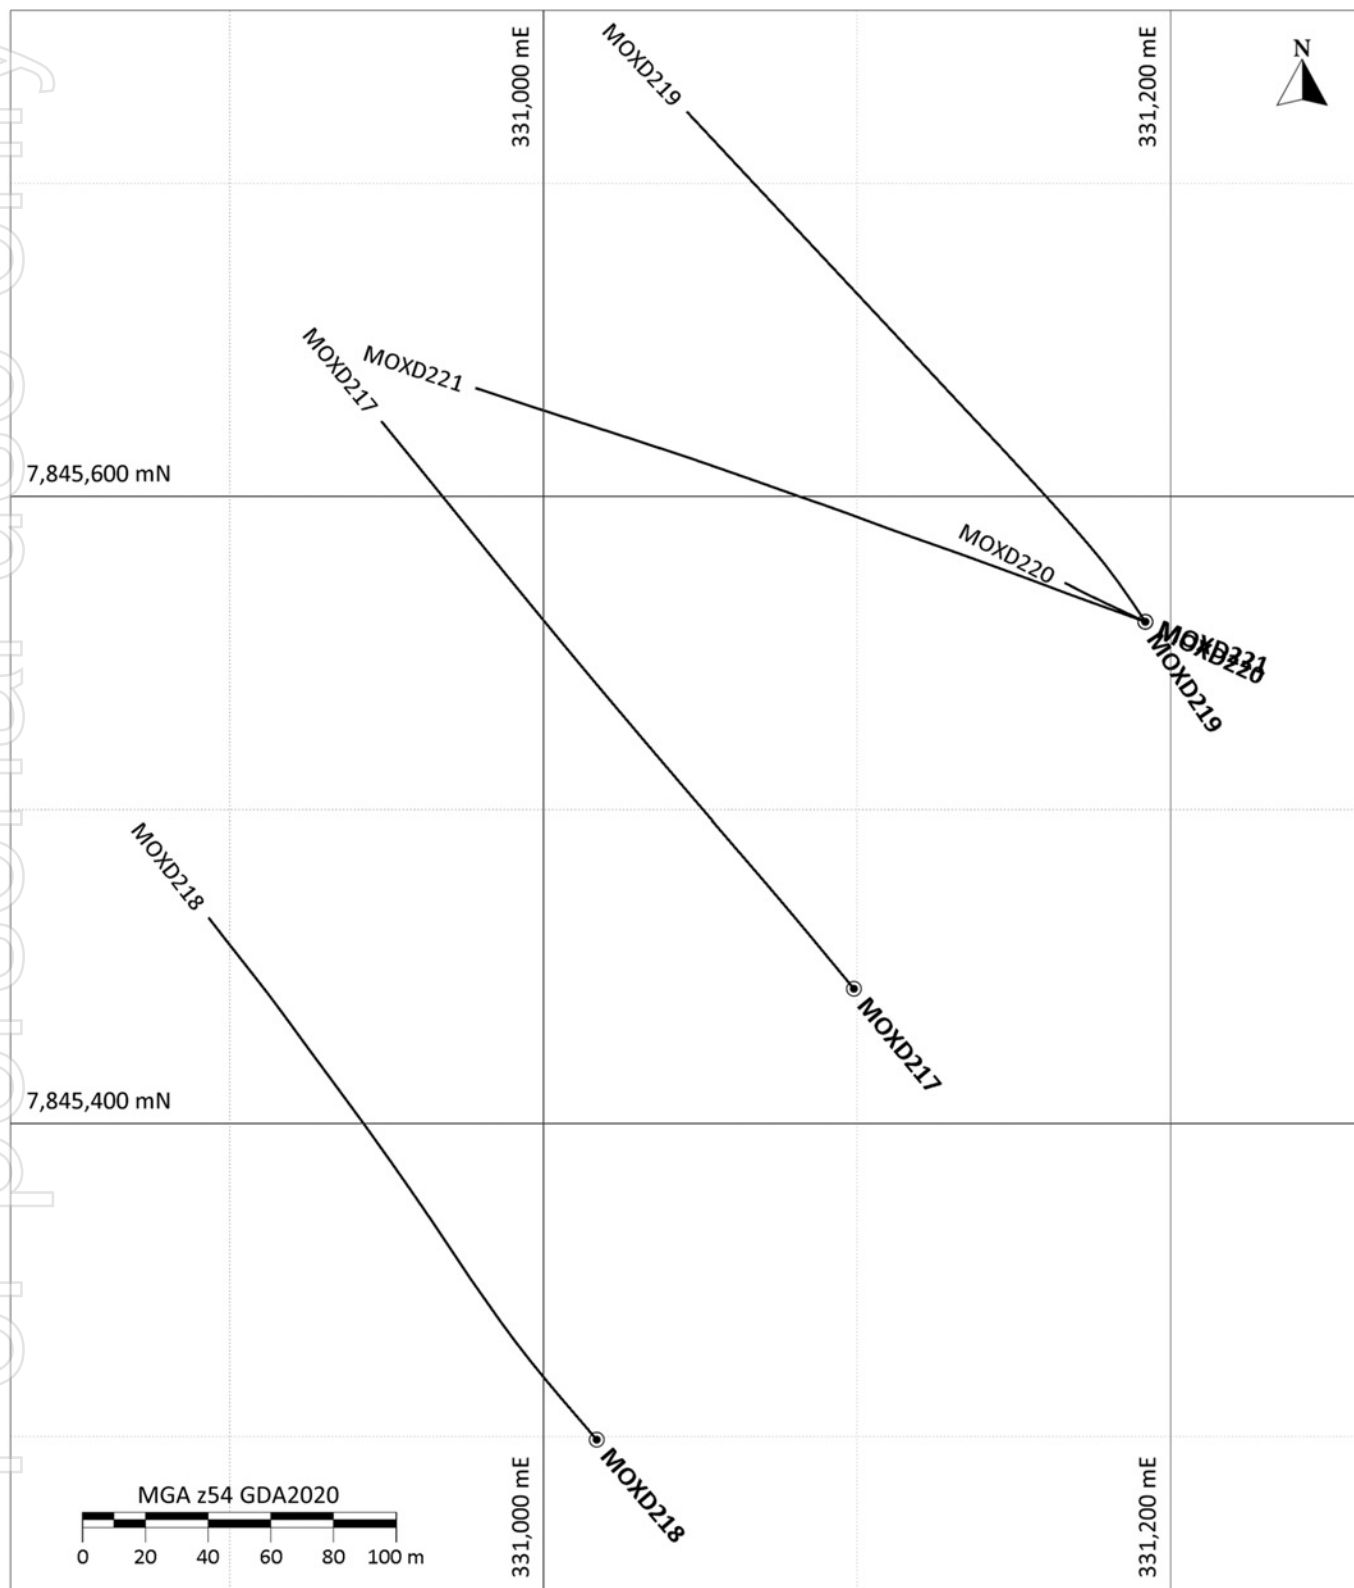

Figure 7: Plan view showing the collar location and drill trace of holes listed in Table 4
- TNC's geological team are currently drilling other resource extension, infill, and metallurgical holes at the Vero Resource (see Table 4 which provides collar and survey information for these other current drillholes - MOXD218, MOXD219, MOXD220, MOXD221; see Figure 7 for a plan view showing the collar location and drill trace of these other current drillholes MOXD218, MOXD219, MOXD220, MOXD221). Assays results are pending and will be released during Q3, Q4 2023. Development of a 3D mineral system model with a focus on structure, stratigraphic and mineralisation vectoring is currently in progress. Planning is underway for potential, airborne geophysics, mapping, surface sampling programs in high priority target areas.